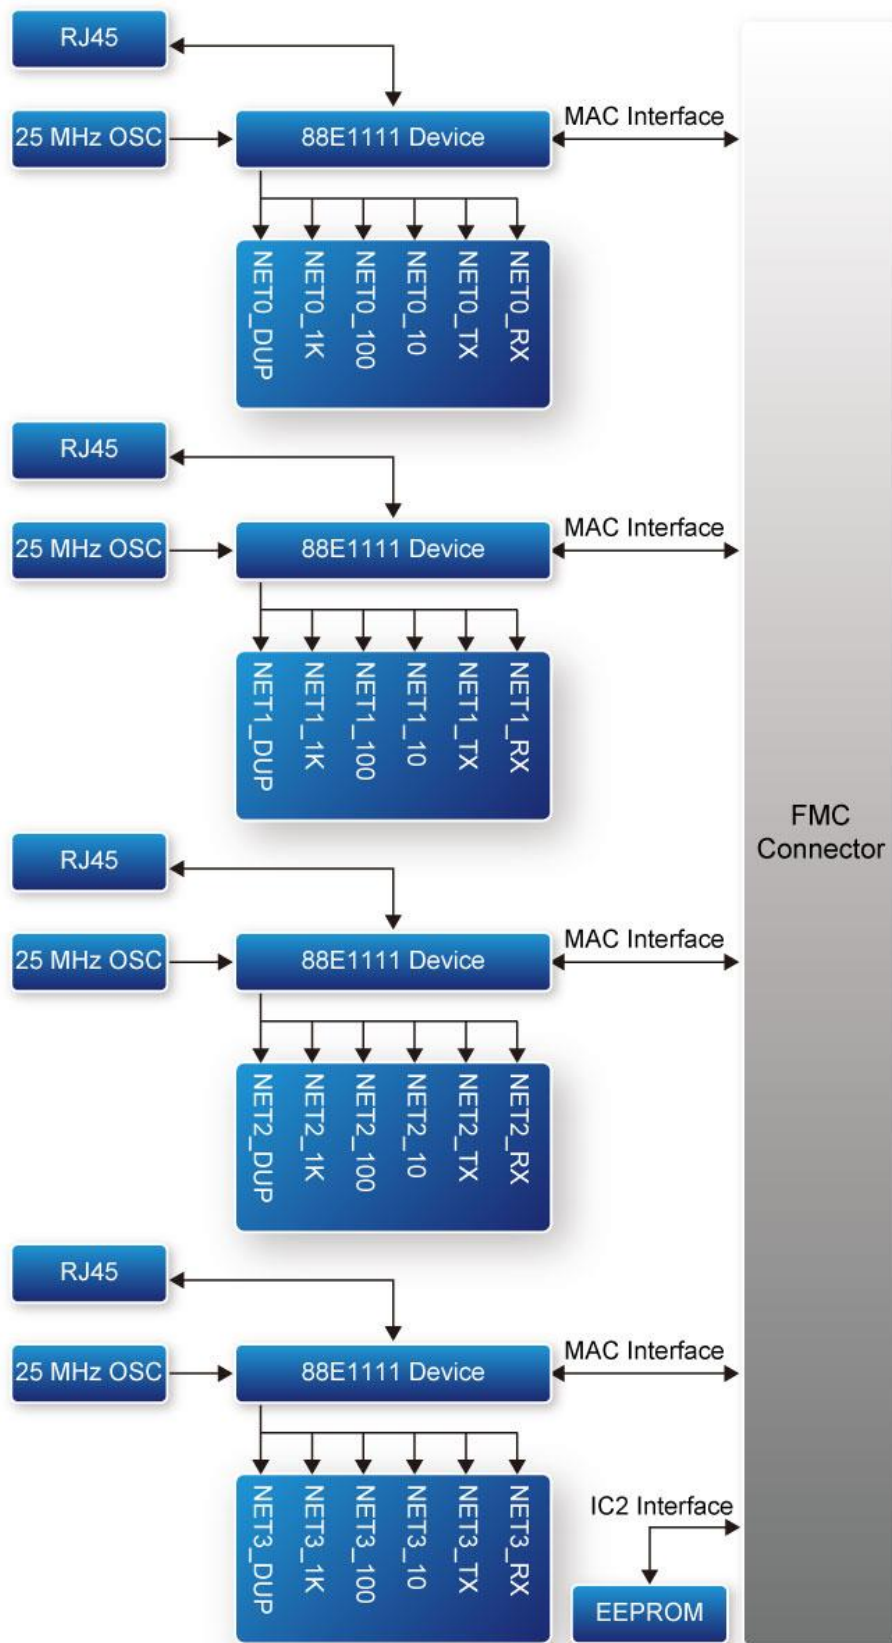

Figure 2-3 Block Diagram of NET-FMC Board
**Figure 2-3** shows the NET-FMC Block Diagram. Four 25 MHz reference clock driven from dedicated oscillator are required for Ethernet PHY 88E1111. FMC Connector transmit the data between host board and Ethernet PHY 88E1111 through MAC interface. Also, four-port integrated 10/100/1000 Gigabit Ethernet Transceiver supported SGMII/GMII/MII/RGMII MAC interfaces is installed for direct connection to a MAC/Switch port. There are four group LEDs indicting the link status.